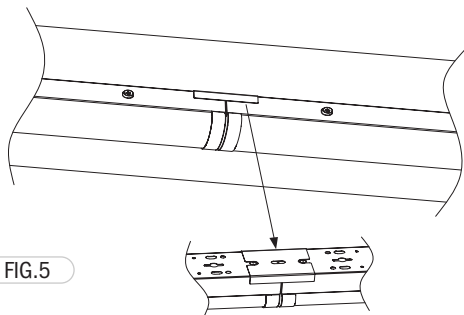

FIG.5
- 3 OPTIONAL - Each fixture has two ends, labeled A and B. To connect multiple fixtures end-to-end, remove the plastic SnapLink™ cap from the fixture ends. Insert the A end of one fixture into the B end of another, then secure the connection using the connecting plate (sold separately). (Figure 5)